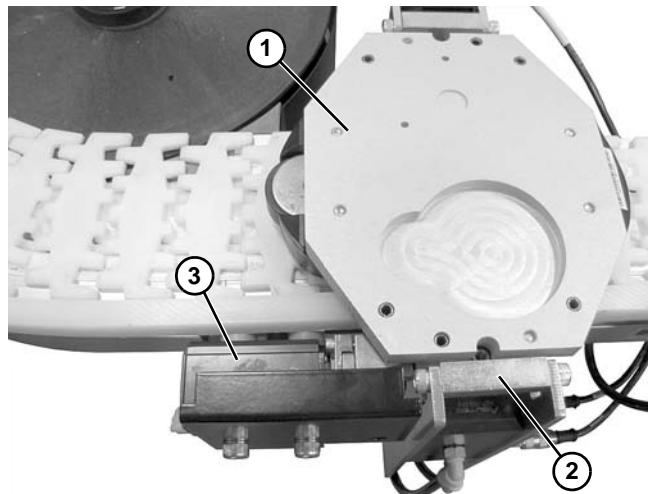

Figure 11
7. Place pallet (**Figure 11, item 1**) on lift and locate (**Figure 11, item 2**).
8. Install pallet stop (**Figure 11, item 3**). Position against pallet.